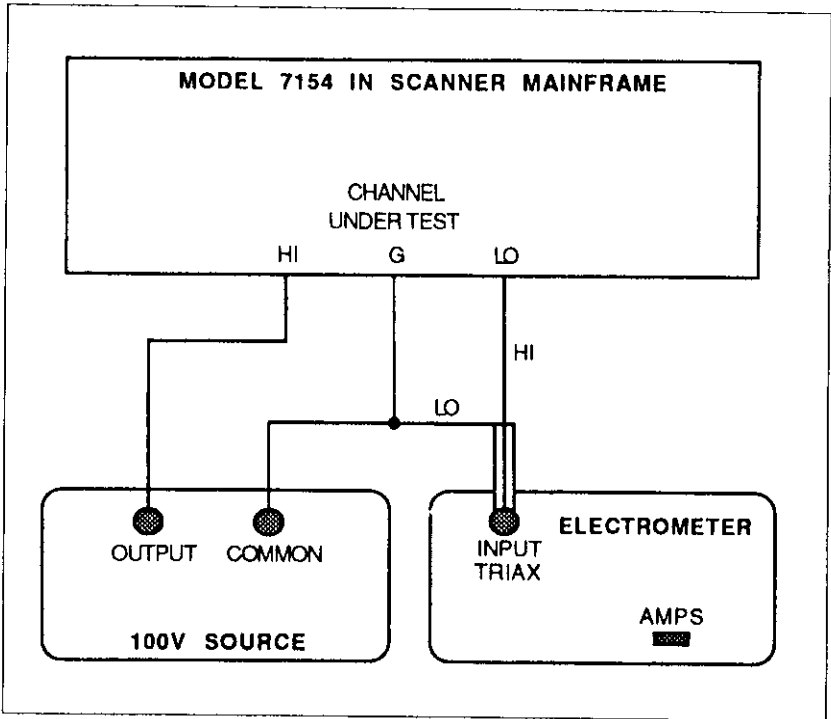

Figure 3-3. Input Isolation
1. Set up the equipment as shown in Figure 3-3.